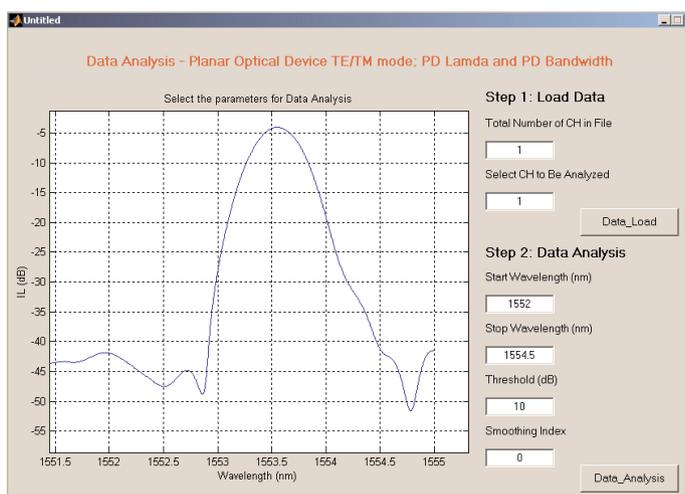

Figure 4. Zoom the analyzed area and input the data analysis parameters
After the data is loaded, use the left mouse button to zoom the area to be analyzed as shown in figure 4. Type the start and stop wavelengths for analysis. Select the insertion loss (IL) threshold used for calculating the central wavelength (CW) and bandwidth (BW). Select the smoothing index used for noise reduction. The definition of smoothing index is the same as the SWS application software. Click the “Data_Analysis” button. It takes a few second to complete the calculation, depending on the amount of data saved in the .ppp file.